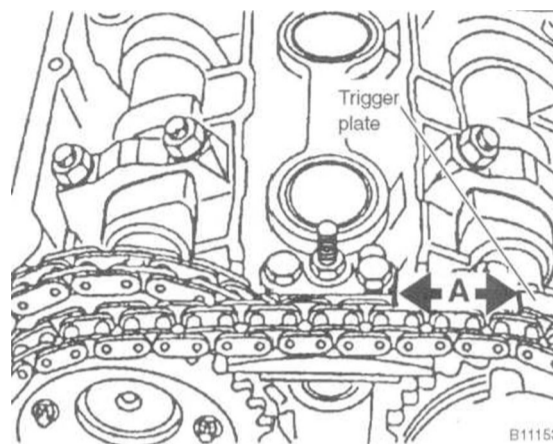

Fig. 37. VANOS reference measurement (dimension A) between trigger plate (sender gear) and side of secondary chain tensioner.
10. Measure and record the distance between the trigger plate edge and the side of the secondary timing chain tensioner. See Fig. 37.
12. With the solenoid actuated, measure and record the new distance between the trigger plate edge and the side of the secondary timing chain tensioner, as shown above in Fig. 37.